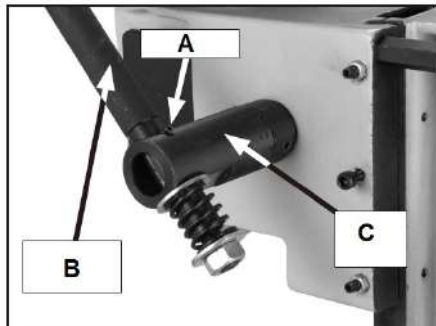

Fig 3
To install the downfeed handle(Fig 3):
1. Remove the hex nut, compression spring, and the two fender washers from the end of the downfeed handle(B Fig 3).
2. Install the downfeed handle into the handle clutch(C) as shown in Fig 3. Ensure that the handle pin(A Fig 3) sits in the groove in the handle clutch.